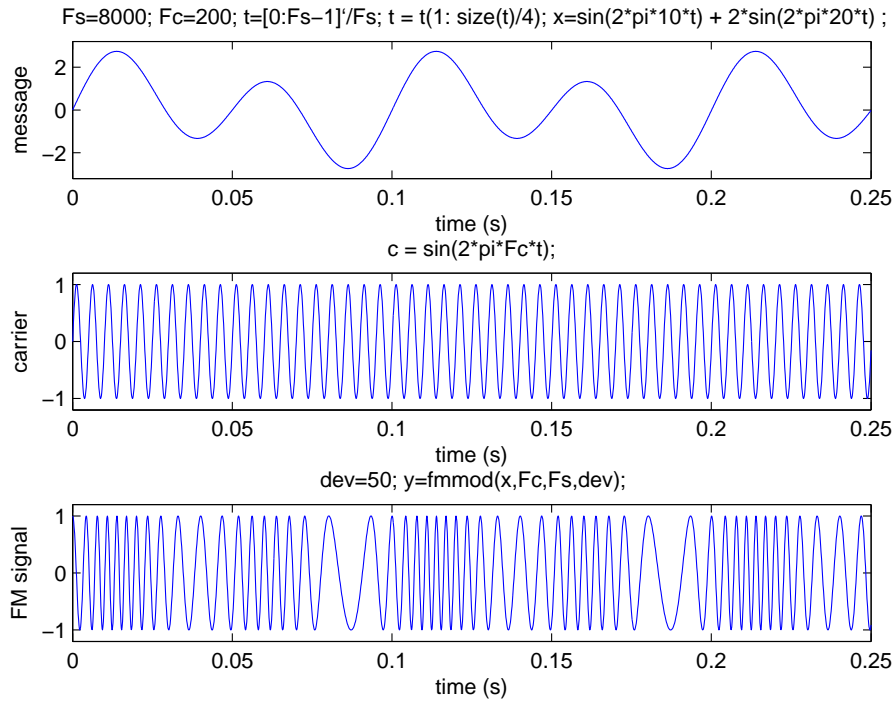

Figure 18:
Frequency Shift Keying (FSK) modulation is the digital version of Frequency Modulation (FM). FM uses the amplitude of the message to vary the frequency of a carrier. Hence, the amplitude of the FM signal is held constant while its frequency changes according to the amplitude of the message as seen in Figure 18. Since noise affects the amplitude of the modulation signal, FM is less susceptible to noise compared to AM. Furthermore, AM requires linear amplifier to produce the final AM signal, while linear amplifier is not necessary for FM.
where  $f_c$  is the carrier frequency (also known as the *rest* frequency),  $G$  is the VCO gain and  $m(t)$  is the message signal. The higher the VCO gain,  $G$ , the higher the deviation between  $f_i$  and  $f_c$  for a given message signal amplitude. Typically, when the message amplitude is at 0V, the oscillator would output a signal at its rest frequency. When the message amplitude is higher (lower) than 0V, the oscillator would output a higher (lower) frequency signal. Hence, the bigger the magnitude of the message, the greater the deviation between the frequency of the FM signal and that of the carrier, as seen in Figure 18.